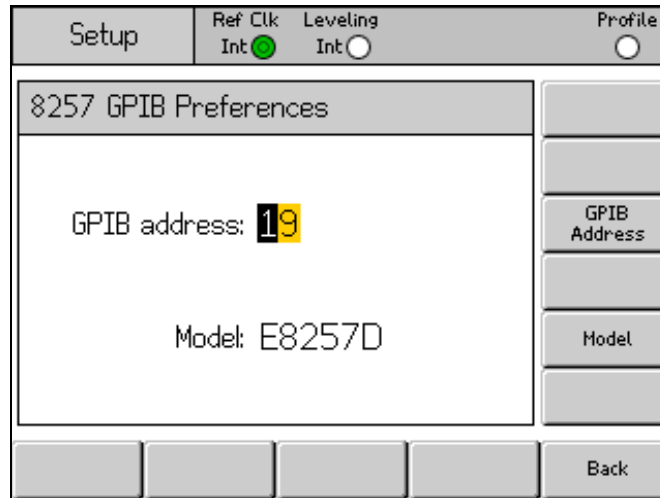

Figure 27. E8257 GPIB Preferences Screen
5. Set the GPIB Address and the Model. See Figure 27.